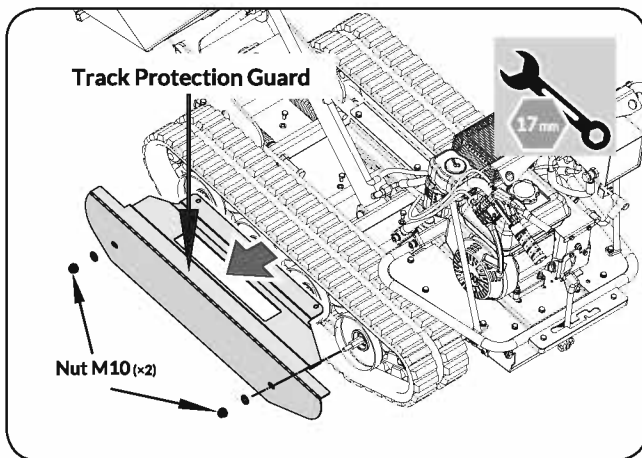

Figure 11c
- Remove the two M10 nuts and washers from the side of track protection guard. (See **Figure 11c**)